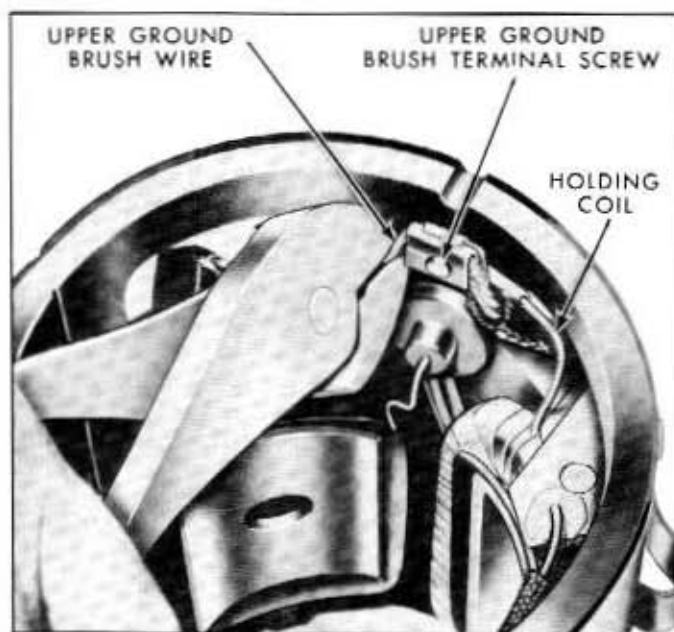

Fig. 9-35—Upper Ground Brush Wire Terminal—(60C-7693)
6. Cut the upper ground brush wire at the terminal block as shown in figure 9-35.